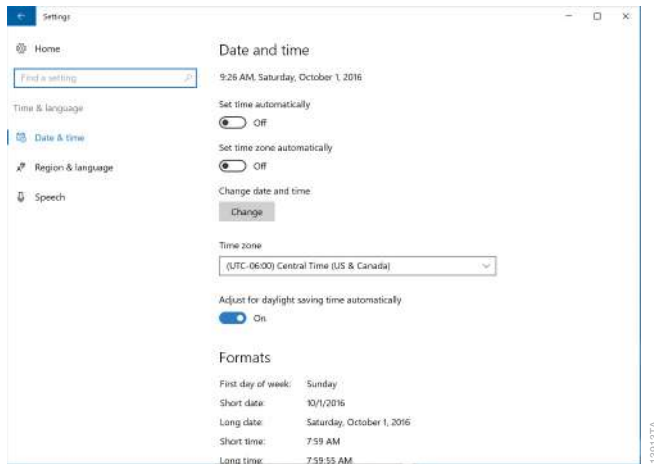

Figure 123. ‘Time & language’ screen. Settings for Date and time can be modified from this screen.
- c. Touch the **Time & language** button on the ‘Windows Settings’ screen to open the ‘Time & language’ screen (Figure 123).